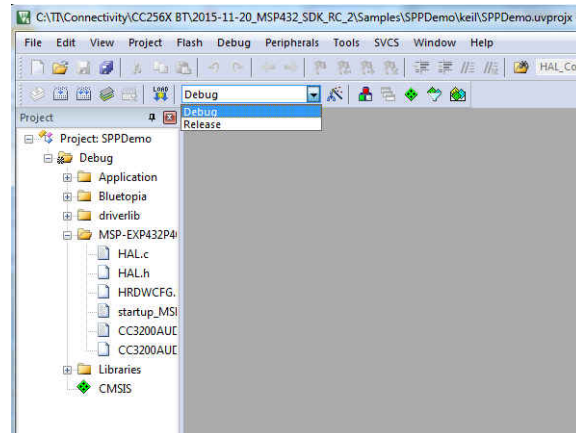

Figure 6-9. Configurations
5. Select either the *Debug* or *Release* configuration from the drop-down menu (in this example, select *Debug*, see Figure 6-9).